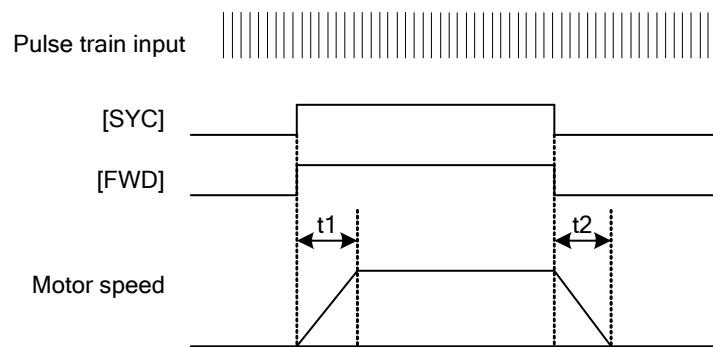

Figure 6.2.25
Times t_1 (S) and t_2 (S) in Figure 6.2.25 cannot be controlled by the inverter.